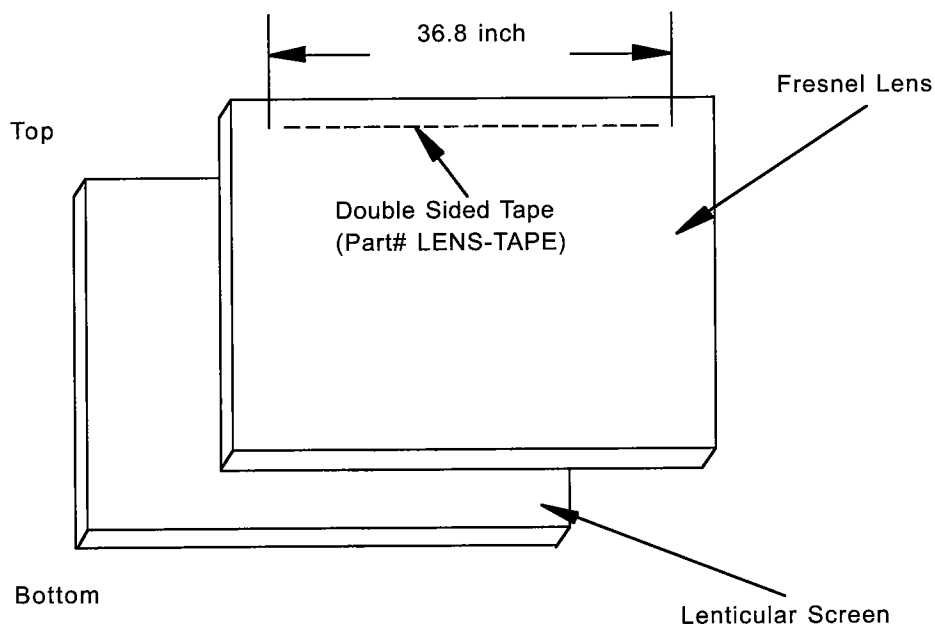

Figure 4-2
1. Apply double coated tape (Part # LENS-TAPE) along the top front edge of the Fresnel Lens as shown in figure 4-2.
2. Place the Fresnel Lens on top of the Lenticular Screen and apply pressure at the top edge to bond them together as shown in figure 4-2.